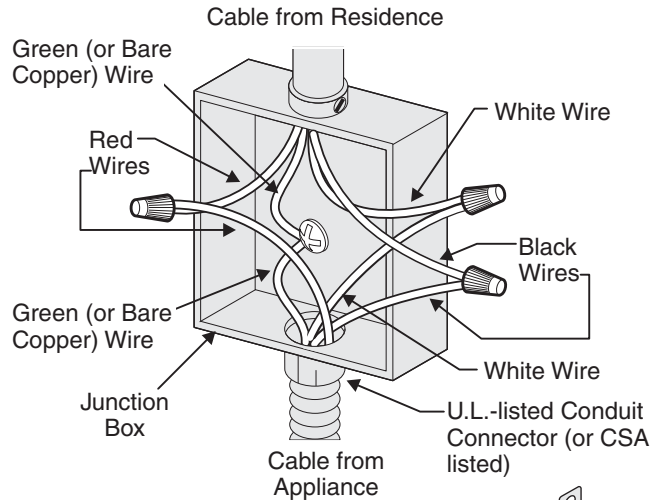

Figure 10 – 4-Wire Electrical System
Where local codes DO NOT permit connecting the appliance-grounding conductor to the neutral (white) wire, or if connecting to 4-wire electrical system (see Figure 10):
3. In the circuit breaker, fuse box or junction box (Fig. 10):